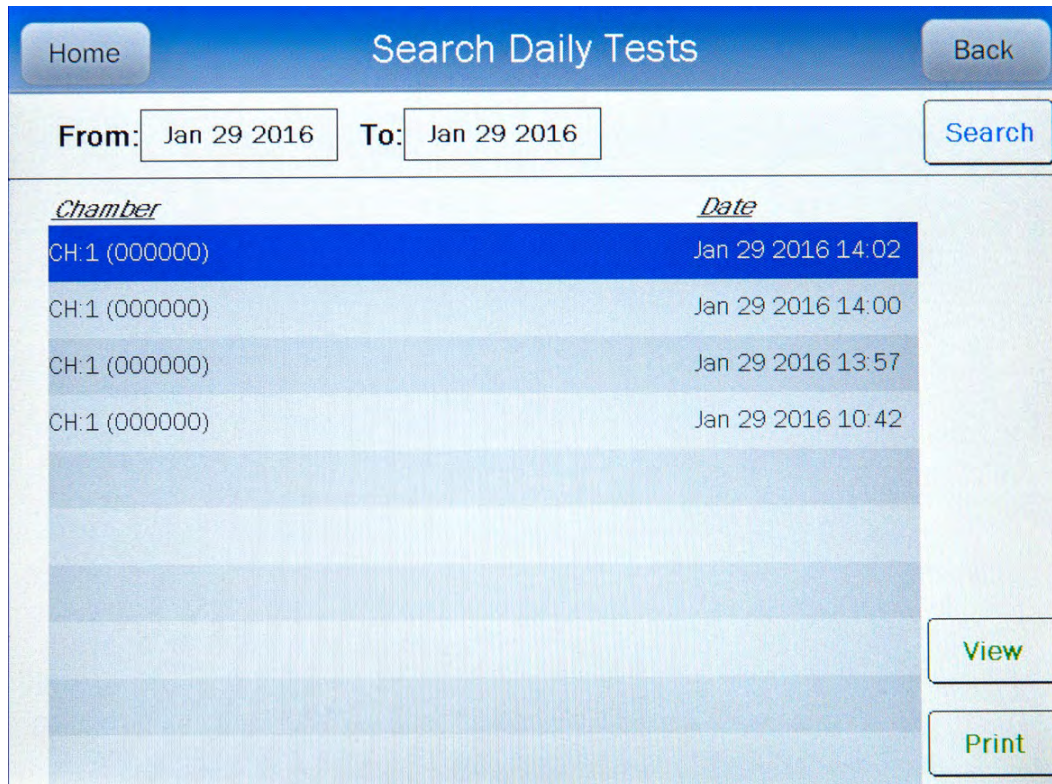
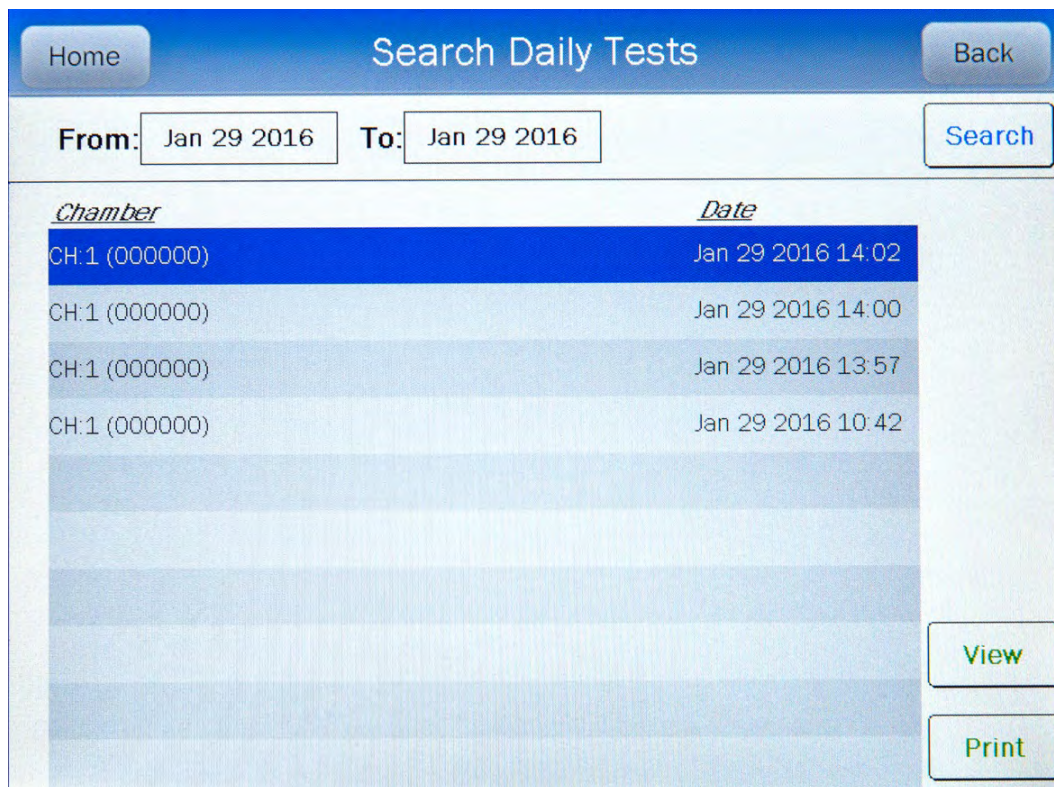

Figure 13-5 Search Daily Tests Screen after Searching
Figure 13-6 Search Daily Tests Screen with Highlighted Test Result
When the From and To dates are correct, touch the **SEARCH** button. The screen will display a listing of the Daily Tests performed within the specified date range as shown in Figure 13-5 Search Daily Tests Screen after Searching.
To exit Figure 13-5 Search Daily Tests Screen after Searching,
To obtain a detailed report for an individual Daily Test result, from Figure 13-5 Search Daily Tests Screen after Searching, touch the desired result on the list. The result will become highlighted and a **VIEW** button will appear on the screen as shown in Figure 13-6 Search Daily Tests Screen with Highlighted Test Result. (If necessary, scroll the list until the desired result is displayed.)
- touch the **BACK** button – Figure 13-5 Search Daily Tests Screen after Searching will re-appear or
To complete the inactivation of the selected Daily Test result, touch the **YES** button. Figure 13-5 Search Daily Tests Screen after Searching will re-appear with a line through the characters of the inactivated Daily Test.
To obtain a detailed report for a particular Zero Measurement result, from Figure 13-11 Search Zero Measurements Screen after Searching, touch the desired result on the list. The result will become highlighted and a **VIEW** button will appear on the screen similar to that shown in Figure 13-6 Search Daily Tests Screen with Highlighted Test Result. (If necessary, scroll the list until the desired result is displayed.)